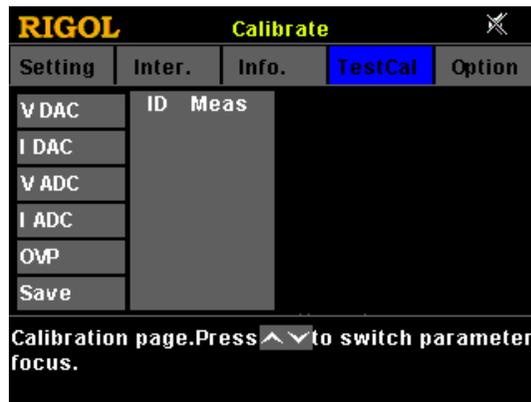

Figure 2-3 Calibration Page
- (4) Press **OK** to confirm your password, and then you enter the calibration page, as shown in Figure 2-3.